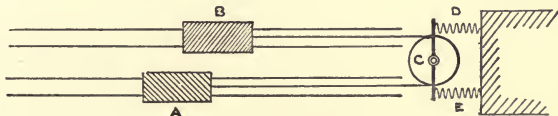

Fig 1
1. Two trucks *A* and *B* of mass 6 tons (see Fig. 1) running along parallel level railways are connected by a wire passing round a pulley wheel *C*. This pulley wheel is held by springs